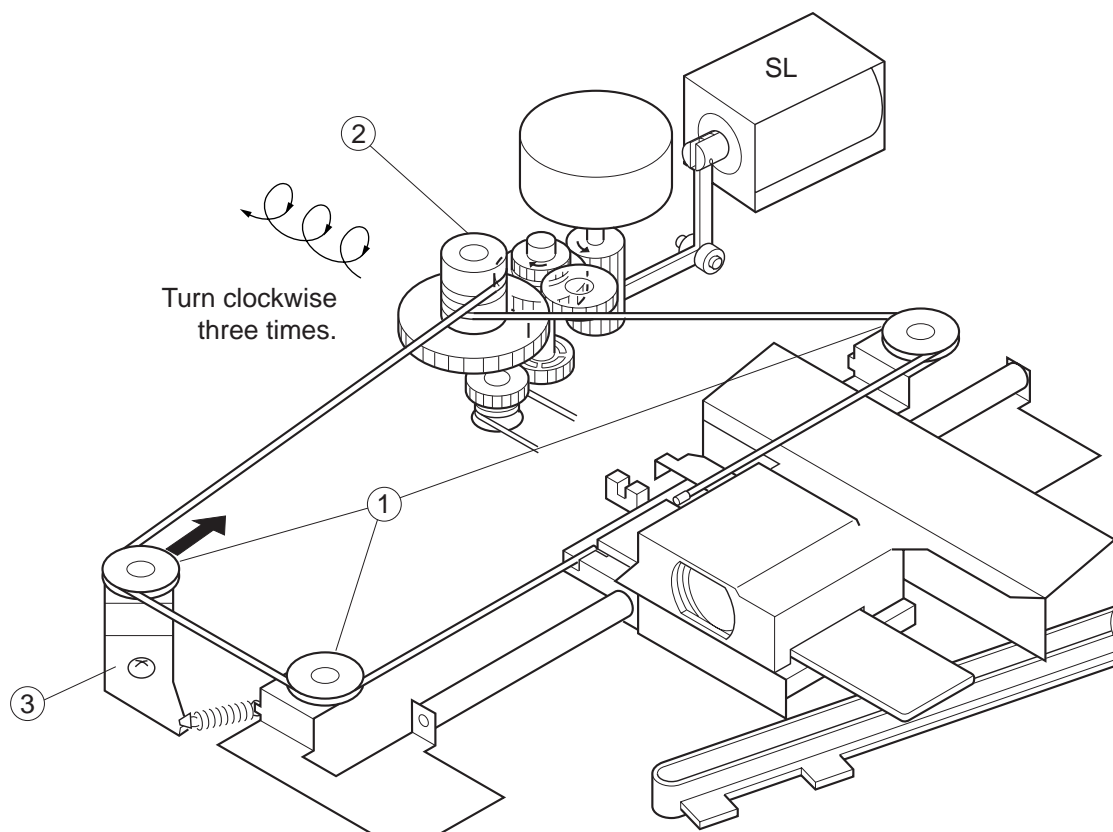

Figure 3-421 Lens Drive Assembly
- 1) Attach the lens cable to each pulley ① while winding it around the lens pulley ② as indicated in Figure 3-421.
- 2) Move the tension pulley ③ to hook the cable.